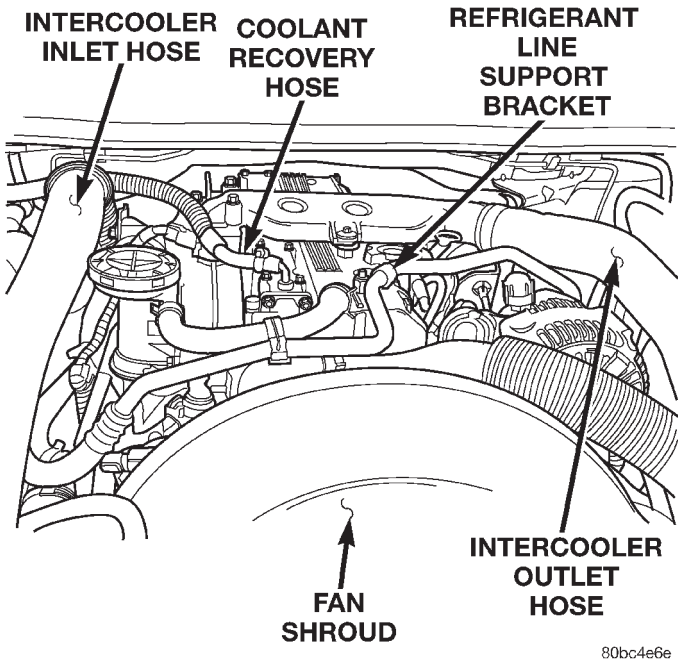

Fig. 26 Refrigerant Line Support Bracket Position & Orientation
(5) Install the refrigerant line support bracket (Fig. 26).
(6) Install the radiator hose on thermostat housing.
(7) Be sure that the radiator drain is tightly closed. Fill the cooling system to the correct level with the required coolant mixture. Refer to Refilling Cooling System in this group for procedures.
(8) Start the engine and check for leaks.